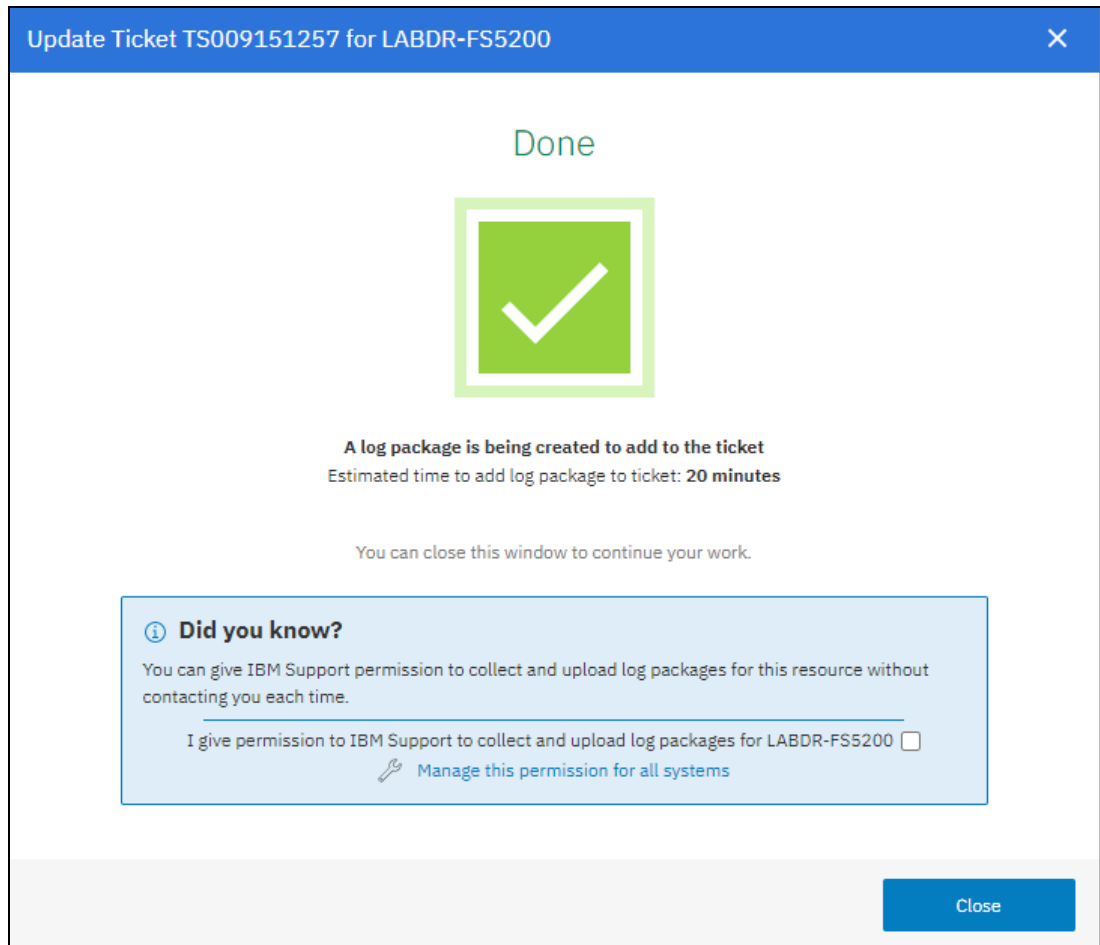

Figure 11-31 Update of the support ticket is complete
5. By clicking **Next**, the update of the support ticket is completed, as shown in Figure 11-31.